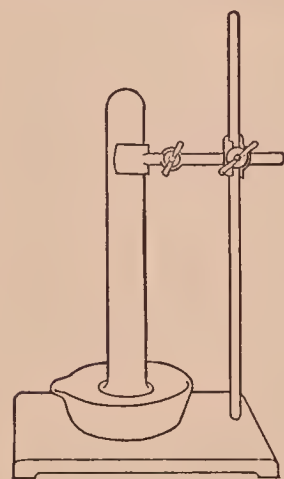

FIG. 23. — Apparatus for studying the reaction between water and sodium
**APPARATUS.** — Test wire, test tube clamped over dish as in Fig. 23.
Fill an evaporating dish two-thirds full of water. Fill a test tube full of water, cover and invert it, and clamp it as shown in Fig. 23. Make several holes in a piece of tea lead (about 5 cm. or 2 in. square), wrap a small piece of clean sodium loosely in the *dry* tea lead, and slip it under the test tube. (Wire gauze may be used instead of tea lead.) A gas will rise in the test tube.